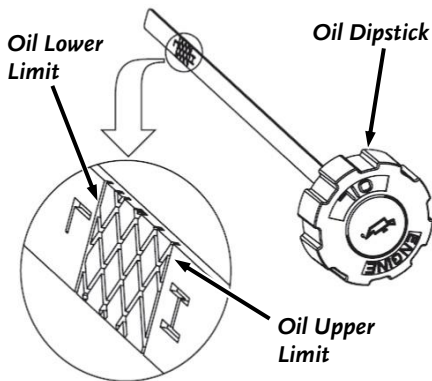

Figure 21
- 13.3 TQ Engine:** Replace the Dipstick but **DO NOT** screw on, and then remove it to check the oil level (**Figure 21**). Continue adding a few ounces of oil at a time, rechecking the Dipstick until the oil reaches the fill mark. Be careful not to overfill.
- 14.5 HP Engine:** Replace the Dipstick and screw on fully, and then remove it to check the oil level (**Figure 21**). Continue adding a few ounces of oil at a time, rechecking the Dipstick until the oil reaches the fill mark. Be careful not to overfill.